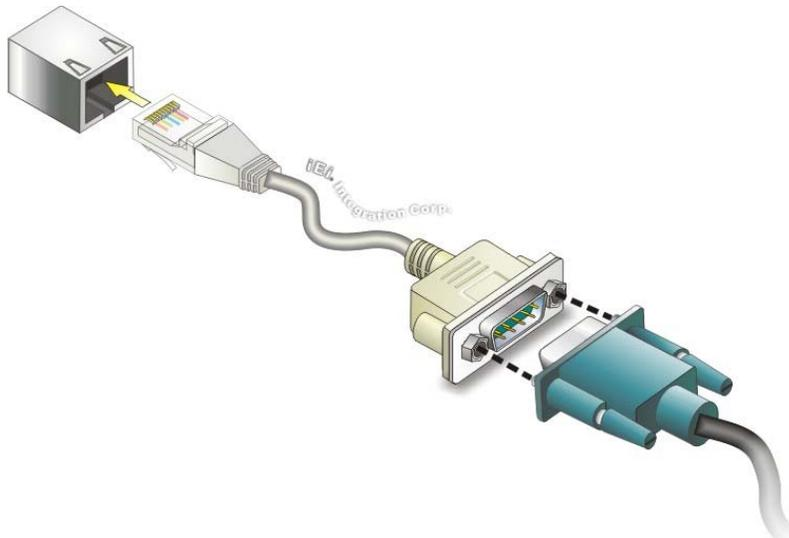

Figure 4-22: RJ-45 Serial Port Connector
Step 2: **Connect the RJ-45 to COM port cable to the panel PC.** Insert the RJ-45 connector end of cable into the RJ-45 serial port. See Figure 4-22.
Step 3: **Connect the serial device.** Connect a serial device to the D-sub 9 connector end of the cable. See Figure 4-22.